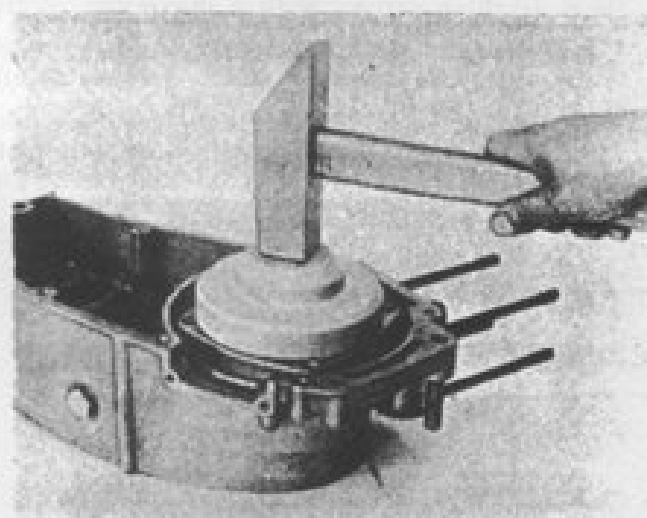

Fig. 34. Pressing-in the crank chamber cover, HX-10-3 motorcycle.
4. Put a conical bushing 4, Set No. 1, onto the left-hand half axle of the left-hand crankshaft to prevent the working edges of the oil seal from damaging, and set the left-hand crankshaft. By means of pusher 1, Set No. 1, and a hammer press in the crank chamber cover (Fig. 34). Fasten the cover with screws and centre punch them (tighten screws with a maximum effort).